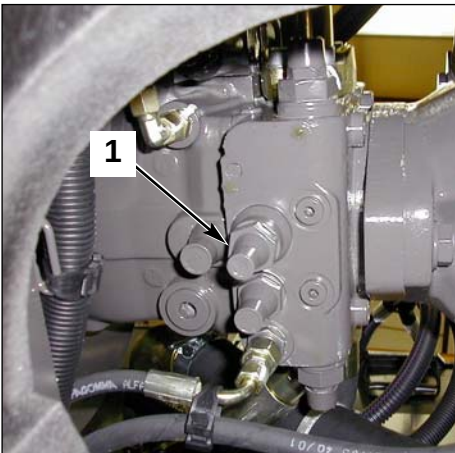

Fig. 2 Transfer movement pump
- 4- If the regime of the engine is too low, turn the screw (1 fig. 2) clockwise in order to increase the speed of the engine.